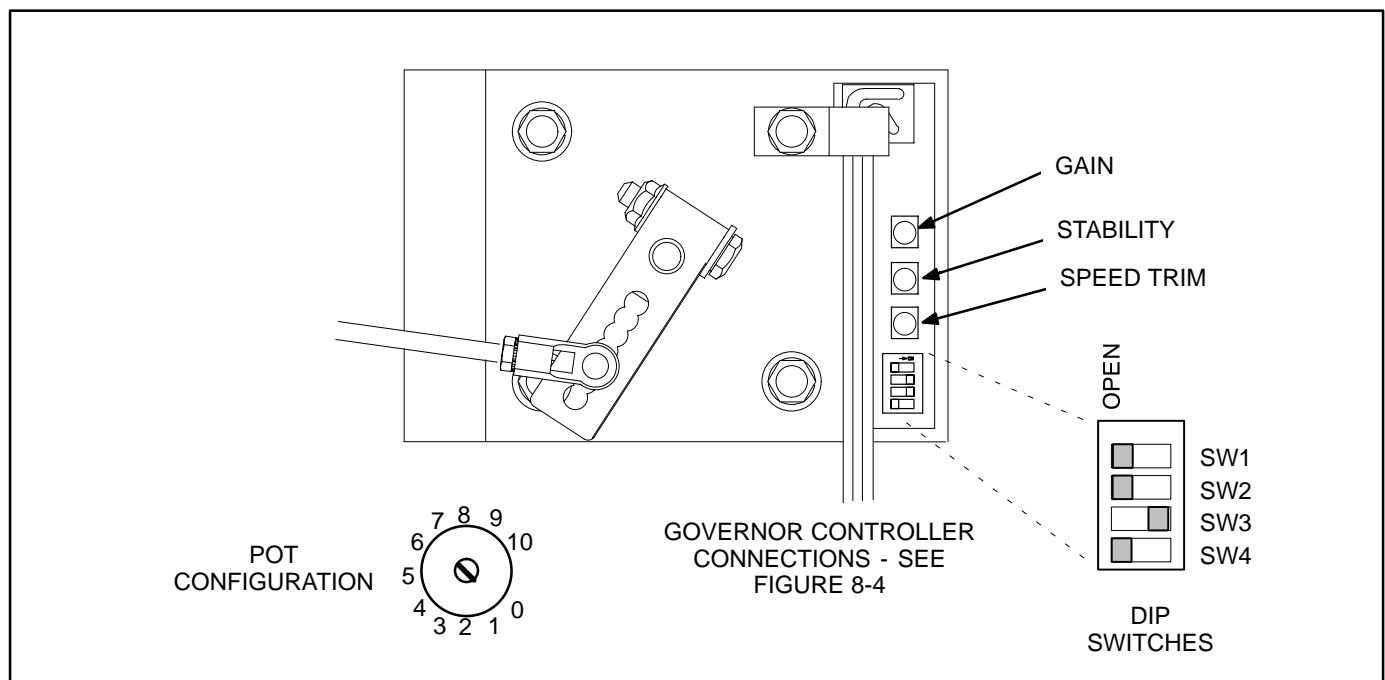

FIGURE 8-1. GOVERNOR CONTROLLER
1. Check the dip switch settings (Figure 8-1) to make sure they are set properly, as follows: